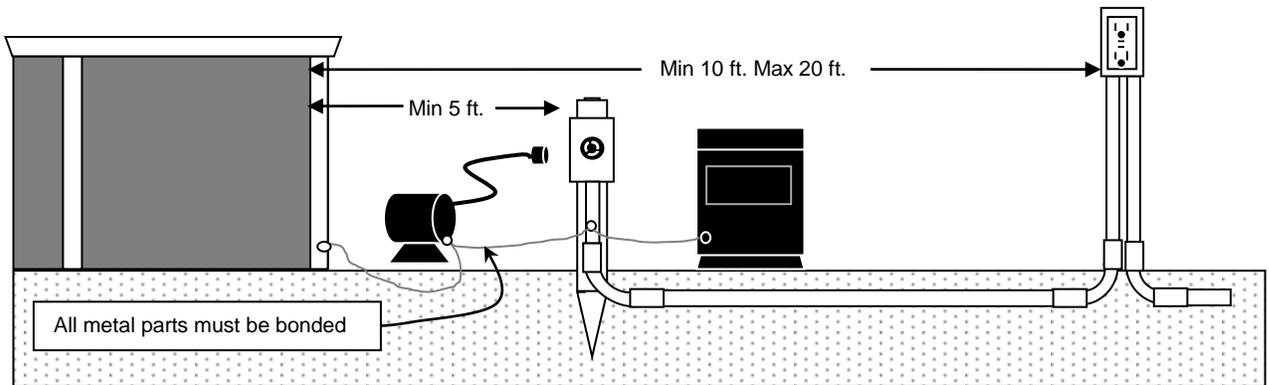

Figure 4
5. Install a weatherproof GFCI protected electrical outlet located not less than 10 feet (10') and not more than twenty feet (20') from the pool. All receptacles on the property shall be located not less than ten feet (10') from the pool. All receptacles located within twenty feet (20') of the pool must be GFCI protected. For cord and plug connections, a single twist-lock receptacle for the pool motor can be located no closer than five feet (5') from the pool. The twist-lock receptacle must be equipped with a weatherproof bubble cap. The cord for the motor is limited to a maximum of three feet (3') in length and must be a twist-lock plug (Fig4).
7. Bonding is required using minimum No. 8 solid copper wire, including the metal parts of the fence forming the pool enclosure barrier, the pool motor, heater, conduit and metal components of the pool structure (Fig.4). (NEC 2005 Art. 680.26 and Art. 250)